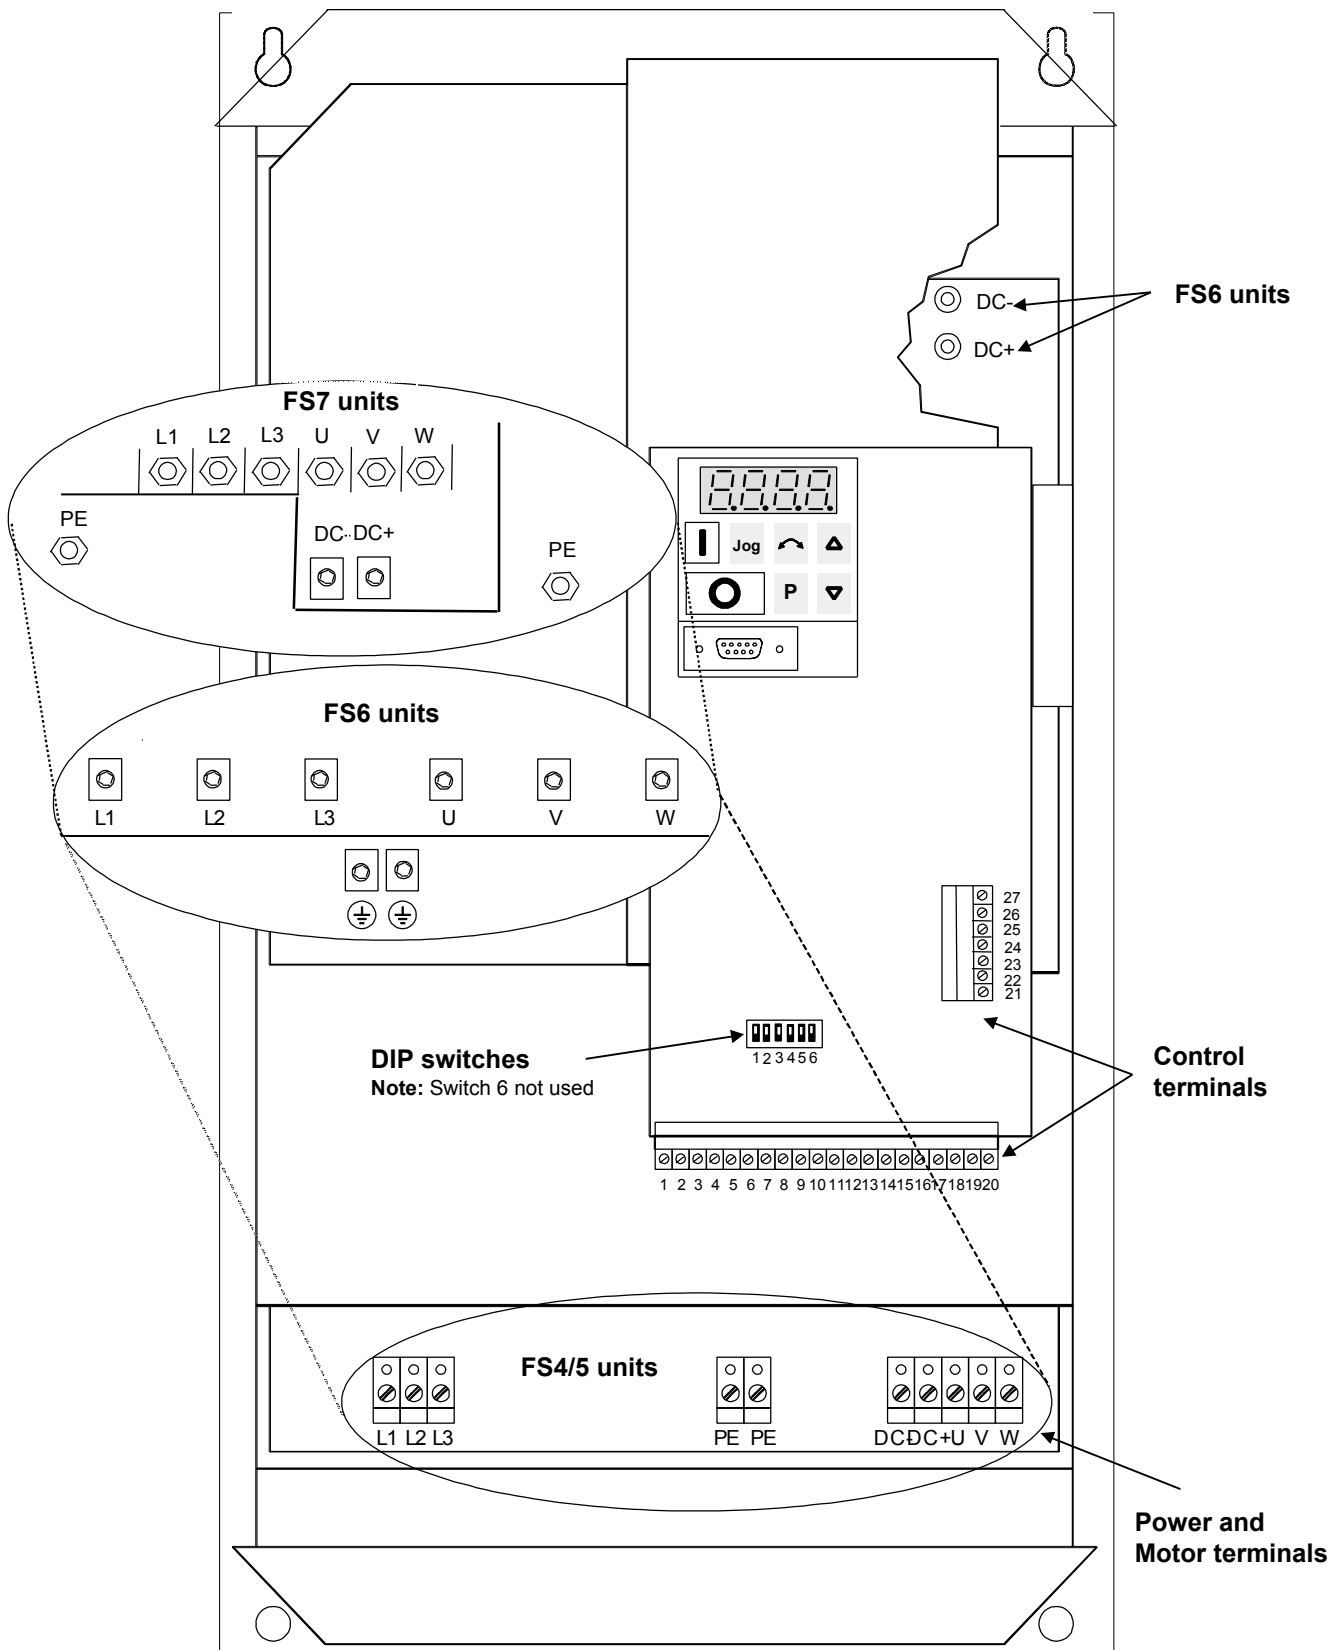

Figure 3.2.1: MIDIMASTER Vector Connectors
Read the Wiring Guidelines given in section 1.2 before commencing installation. The electrical connectors on the MIDIMASTER Vector are shown in Figure 3.2.1.
2. Connect the power input to the power terminals L1, L2, L3 (3 phase) and earth (PE) (shown in Figure 3.2.1) using a 4-core cable and lugs to suit the cable size. For the cross-section of each core, see section 8.
3. Use a 4-core screened cable and suitable lugs to connect the motor leads to the motor terminals U, V, W and earth (PE) (shown in Figure 3.2.1).
Control connections to the MIDIMASTER Vector are made via two terminal blocks located as shown in Figure 3.2.1. The terminal blocks are of a two-part design. The part containing the screw terminals can be unplugged from it's housing before wires are connected. When all connections to the terminals have been made (as shown in Figures 3.2.1 and 3.2.2) and secured, the terminal block must be plugged firmly back into it's housing.
- for Frame size 4, 5 and 6 the front cover is removed (see Figure 3.2.1).
- for Frame size 7 the lower front cover is removed (see Figure 3.2.1).